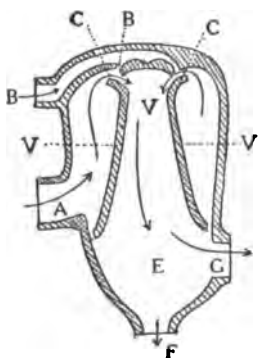

Fig. 10
Where any of these various forms of silencers are used on boats very much better results, less back pressure, and a cooler muffler are obtained by running a small portion of the water from the jackets into the muffler. As water-cooling in this way proves so very satisfactory, a number of silencers are made especially for marine use with devices for circulating water through them. Among such devices are the *Hydrex* and *Thermex* silencers, illustrated in Figs. 10 and 11. In the *Hydrex* (Fig. 10) the gases enter at A and are turned upward and given a whirling motion by the internal cone (V). Water from a jacket enters at B through a ring-shaped